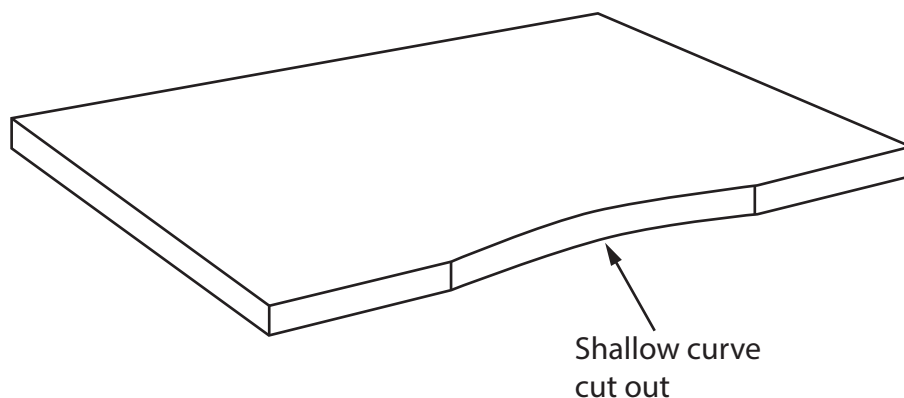

Figure 12
Figure 12 shows one of the shelves for the desk tidy.
- (d) Give **two** different shaping methods that could be used to produce the shallow curve cut out on the shelf as shown in Figure 12.